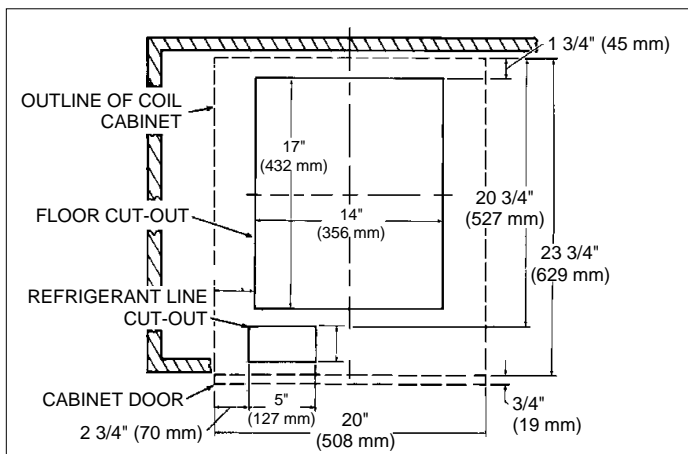
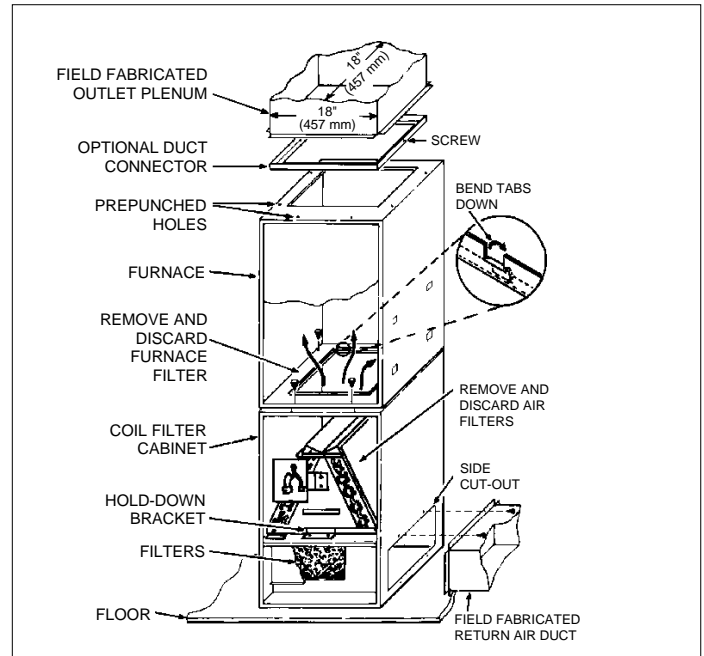

Figure 2. Floor Openings.
Figure 3.
- b. For new installations mark and cut out floor openings as shown in Figure 2.
- ing plate. Also, secure the front of the cabinet with two (2) 3/4" screws at the mounting holes provided.
- b. If a rear mounting plate is not used, secure the rear of the cabinet to the floor or wall with two (2) 3/4" screws at the mounting holes provided. Then secure the front of the cabinet with two (2) 3/4" screws at the mounting holes provided.
5. Mount furnace on top of coil cabinet in upflow mode. (See Figure 3.)
- b. Secure rear of cabinet to furnace by bending-over tabs into furnace inlet or alternately secure with two (2) #10 sheetmetal screws at rear corners through holes provided.
- c. Secure front of cabinet to furnace with two (2) #10 sheet metal screws through holes provided.
- b. Secure front edge of drain pan to coil cabinet using mounting bracket supplied with cabinet. (See Figure 3.)